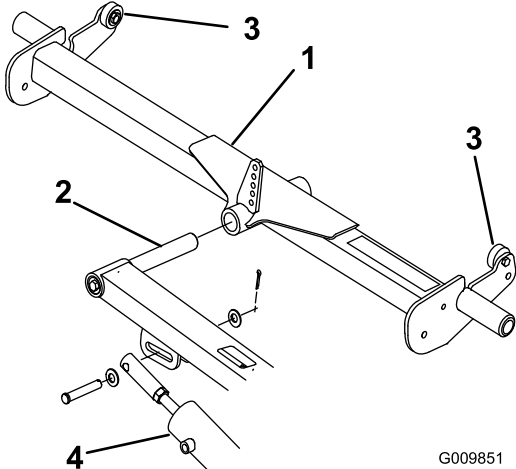

Figure 3
- Slide the rear carrier frame onto the rear lift arm pivot rod (Figure 3). Do not install the carrier frame to the cutting unit at this time.
- Press down on one end of the carrier frame until the up stop on the opposite end contacts the underside of the foot step (Figure 3).
- A. Remove the clevis pin securing the rod end of the lift cylinder to the lift arm (Figure 3).
- D. Tighten the hex nut and connect the cylinder rod end to the lift arm (Figure 3).